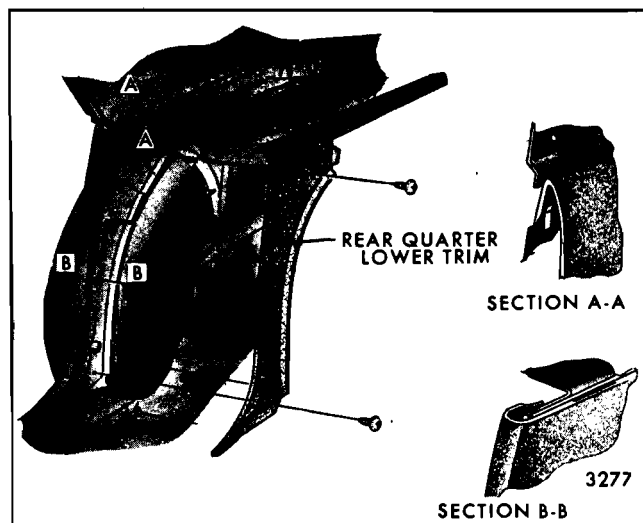

Fig. 14-30—Rear Quarter Trim Assembly - "A, B and X" Four-Door Styles and "A-80" style, Less Station Wagon
3. On "A, B and X" Styles, remove exposed screws securing trim panel to quarter inner lower panel (Fig. 14-30).